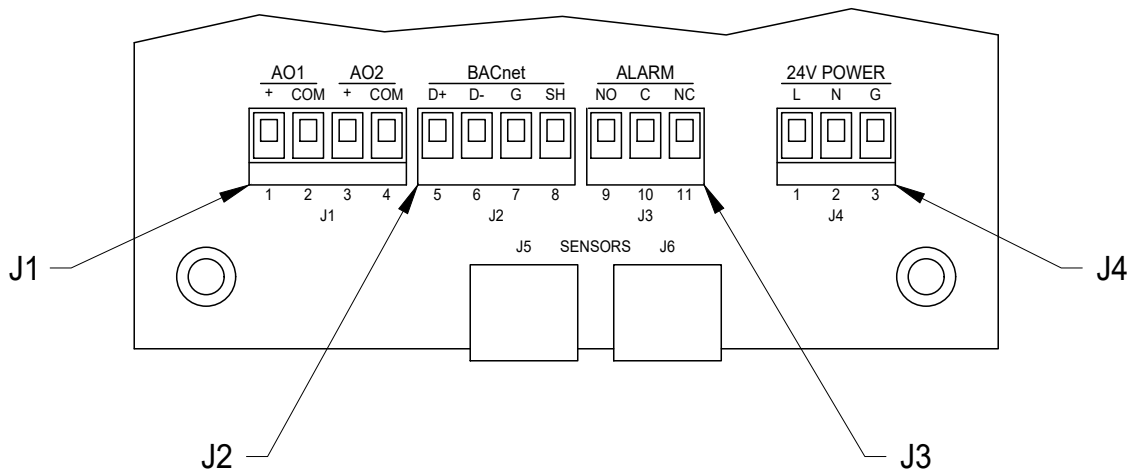

Figure 18
- **WIRING NOTES.** Two conduit openings are provided on the bottom of the transmitter enclosure for power and signal wiring. AMC recommends power wiring be 18 AWG to 14 AWG (max), and signal wiring be 22 AWG to 14 AWG (max). No more than two wires should be connected to an individual terminal. For ease in making connections, the power and signal terminals are removable by pulling the terminal strip straight up and off the circuit board. Once the wiring has been completed, replace the terminal strip by aligning with receptacle and pressing firmly. See Figure 18 for locations of field wiring terminal strips.
- **NETWORK COMMUNICATION,** Terminal strip J2, terminals 5 (D+), 6 (D-), 7 (G) & 8 (SH).
- **ALARM OUTPUT,** Terminal strip J3, terminals 9 (NO), 10 (C) & 11 (NC).